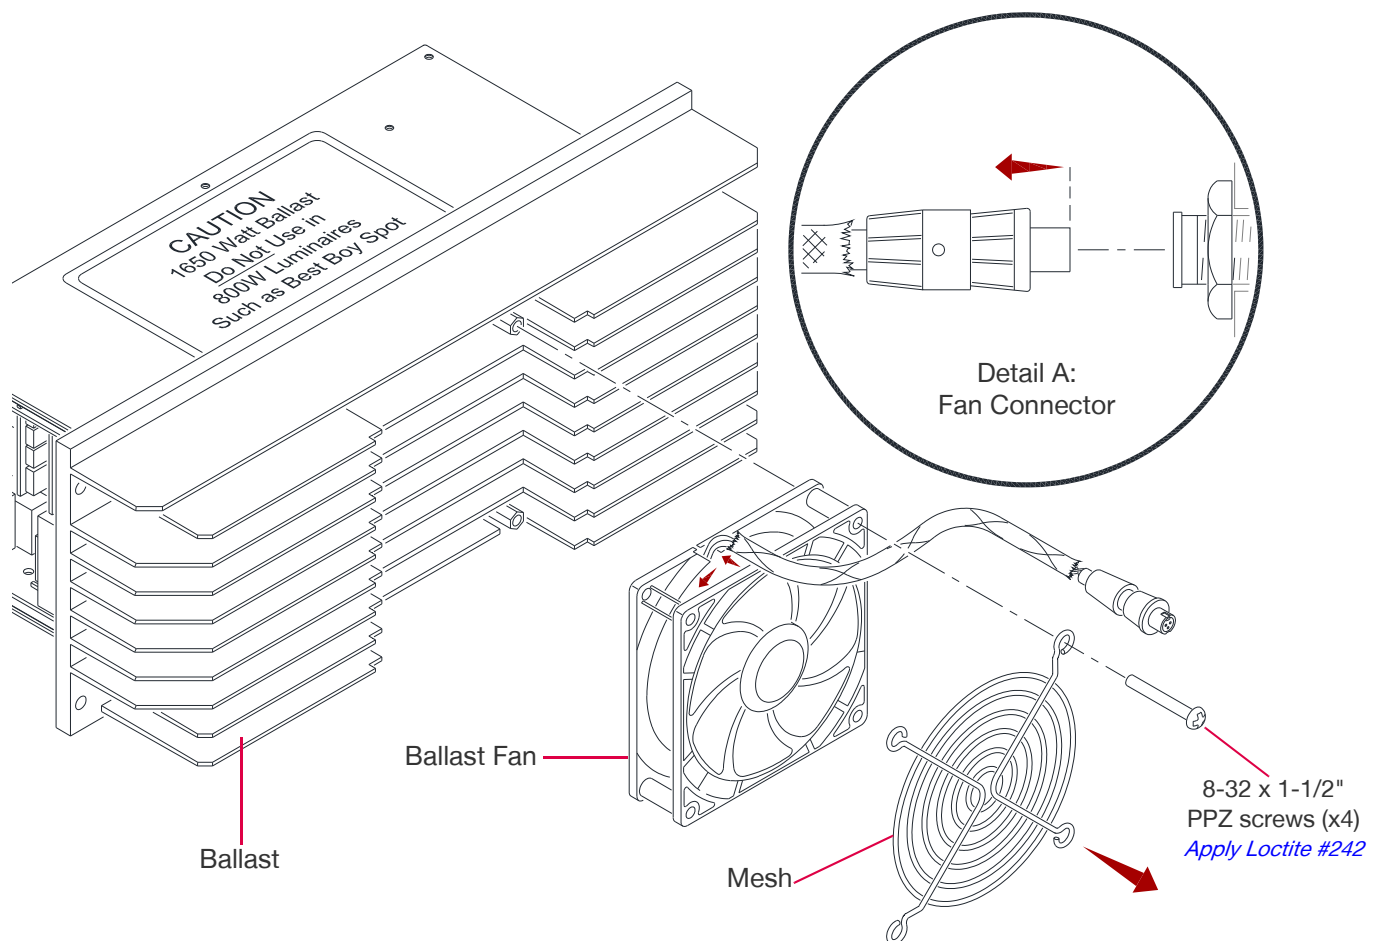

Figure 3-66: Replacing the Ballast Fan
- Step 3. Disconnect Fan Cable by twisting connector. (**Figure 3-66**)